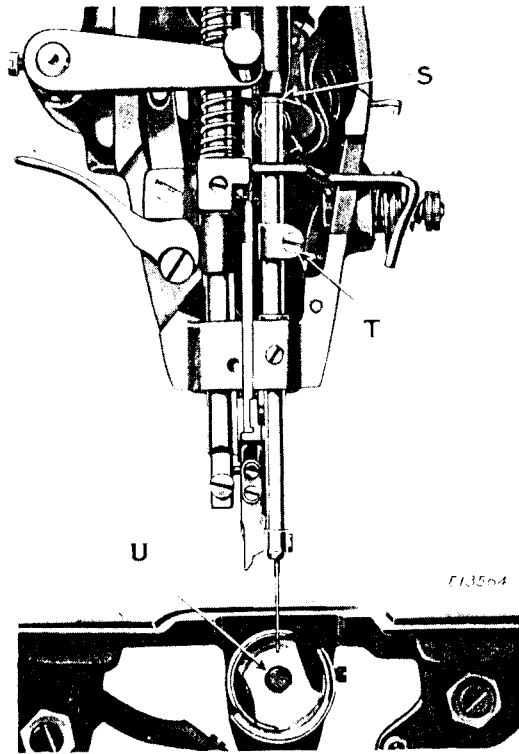

Fig.21
In case the needle bar is not set at the correct height, loosen screw (T, Fig. 21) and move the needle bar up or down until the UPPER TIMING MARK is centered with the lower end of the needle bar bushing, as shown at (S, Fig. 21), then securely tighten screw (T). In the event that the setting of the needle bar bushing has been disturbed, thus making it impossible to set the needle bar for correct height by centering the upper timing mark with the lower end of the needle bar bushing, turn the balance wheel to bring the hook point to the center of the needle, loosen screw (T) and move the needle bar up or down to bring the top of the needle eye  $\frac{1}{32}$  inch below the point of the hook, then securely tighten screw (T). Loosen the needle bar bushing set screw at the top of the machine arm and, while the hook point is at the center of the needle and  $\frac{1}{32}$  inch above the top of the needle eye, move the needle bar bushing up or down to bring its lower end exactly even with the LOWER TIMING MARK on the needle bar, then securely tighten the needle bar bushing set screw.
The needle bar, which is in the machine when shipped from the factory, has two timing marks near its upper end. Rotate the balance wheel until the needle bar moves down to its lowest position. The UPPER TIMING MARK on the needle bar should then be centered with the lower end of the needle bar bushing, as shown at (S) in Fig. 21. In case the needle bar is not set at the correct height, loosen screw (T, Fig. 21) and move the needle bar up or down until the UPPER TIMING MARK is centered with the lower end of the needle bar bushing, as shown at (S, Fig. 21), then securely tighten screw (T).